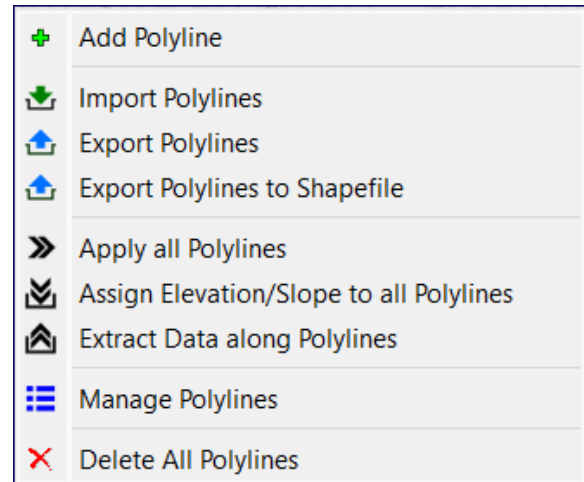
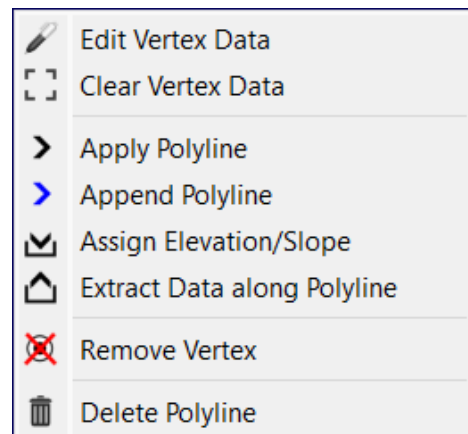

Figure 17. The Polylines Menu
Figure 20. The Polyline Data Menu
To assist in editing polylines, the Polyline Tool has two popup menus—the Polylines menu (Figure 17) and Polyline Data menu (Figure 20). The Polylines menu contains functions related to all polylines and can be opened by right-clicking on the Map Viewer. The Polyline Data menu contains functions related to an existing polyline and can be opened by right-clicking on a vertex of that polyline. The functions of these menus are given below.
1. Polylines menu (Figure 17)
2. **Polyline Data Menu** (Figure 20): This menu contains functions related to an existing polyline and can be opened by right-clicking on a white vertex of that polyline.